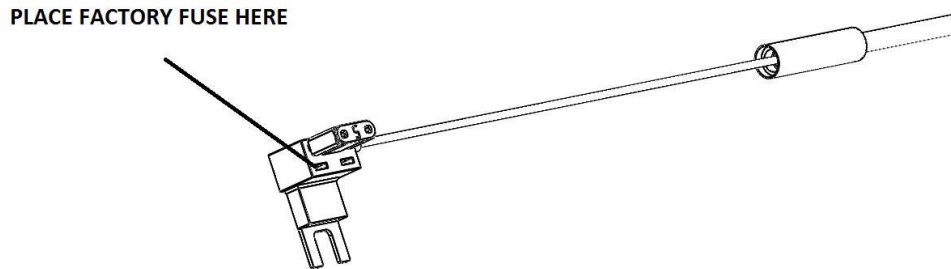

FIGURE 1-5
7. Locate the fuse box and remove the top cover to gain access to the fuses. Using a voltmeter or test light, find a fuse that is "hot" when the key is in the "on" position. Remove the selected fuse and replace it with the mini-fuse tap. Take the factory fuse you just removed and place it in the empty spot on the fuse tap. **FIGURE 1-5**